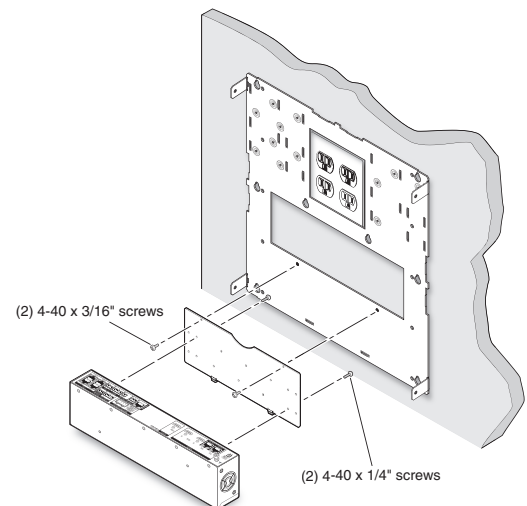

Figure 5. Attach the switcher to the mounting plate and secure both to the base plate.
- b. Secure the switcher mounting plate (with switcher attached) to the base plate by sliding the two tabs into the slots at the bottom edge of the base plate. Secure to the standoffs with 4-40 x 3/16 inch screws (see figure 5 at right).